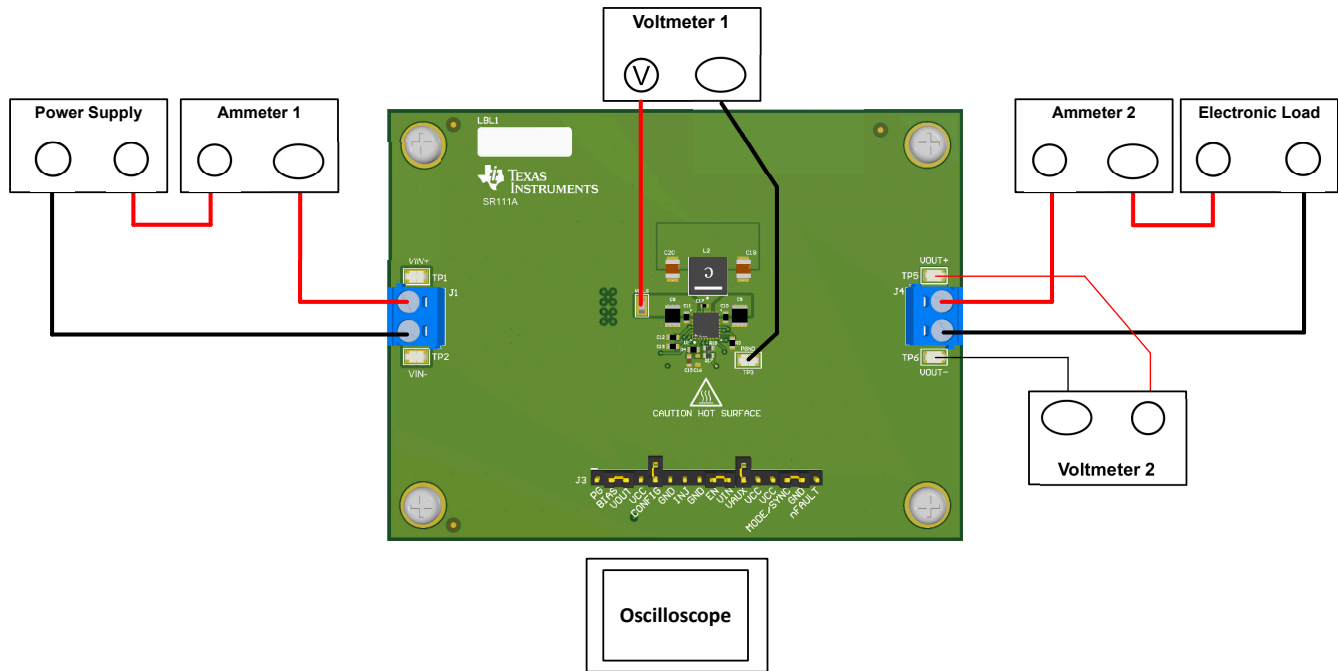

Figure 2-1. EVM Test Setup
Referencing the EVM connections described in Table 2-1, the recommended test setup to evaluate the LM65680-Q1 is shown in Figure 2-1. Working at an ESD-protected workstation, make sure that any wrist straps, boot straps, or mats are connected and referencing the user to earth ground before handling and applying power to the EVM.
- Prior to connecting the DC input source, set the current limit of the input supply to 0.1A maximum. Make sure the input source is initially set to 0V and connected to the VIN+ and VIN– connection points as shown in Figure 2-1.
- Connect an electronic load to VOUT+ and VOUT– connections as shown in Figure 2-1. Set the load to constant-resistance mode or constant-current mode at 0A before applying input voltage.